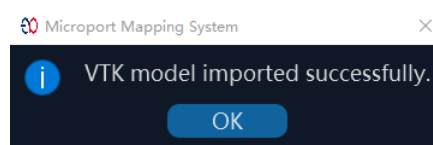

Figure 9-13 VTK Model Import Success Dialog Box
- 4) Click the Scan VTK button () and the Scan VTK File dialog box appears (9-12). Select the VTK file and click Import. This process may last for several minutes, depending on the amount of data stored on the CD/DVD. Once the import is complete, the VTK Model Import Successful dialog box pops up (Figure 9-13).